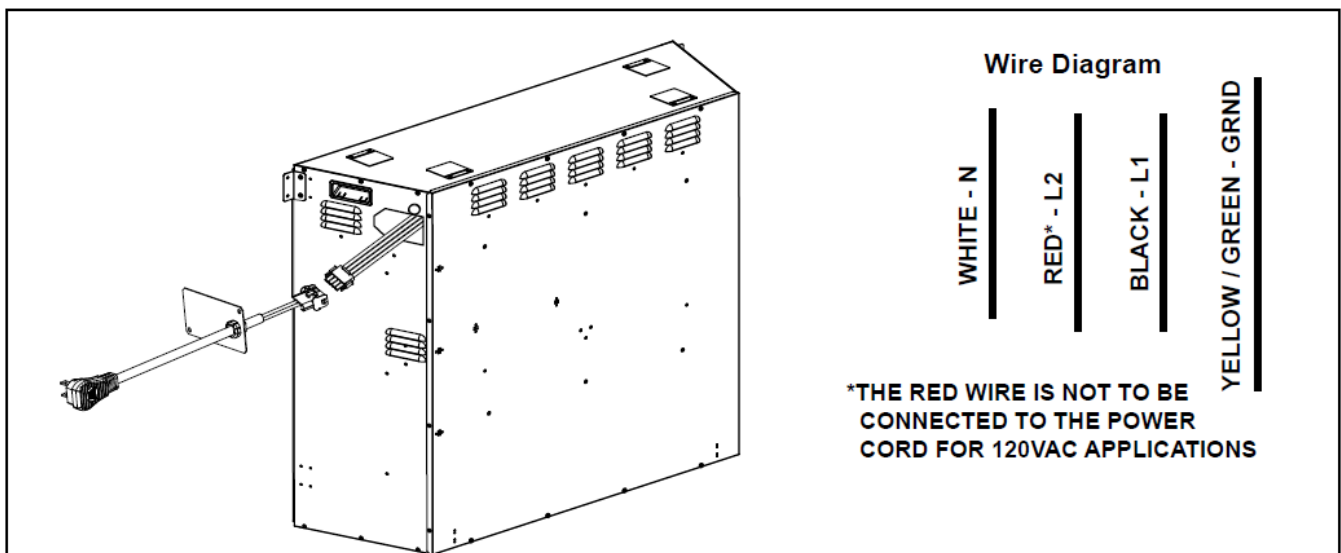

Figure 4.6 Optional Power Cord Assembly
3. Connect the conductor wire connector to the connector on the block supplied with the power cord kit. See Figure 4.6.